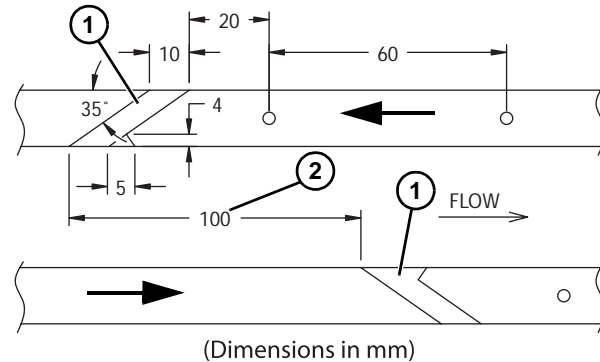

Figure 36
3. Do not place two slide rail joints (**Figure 36, item 1**) opposite each other. Make sure there is a distance of at least 100 mm (**Figure 36, item 2**) between them to make the chain run smoother. This does not apply to slide rail that begins by an idler unit or after a drive unit, where joints are always parallel.